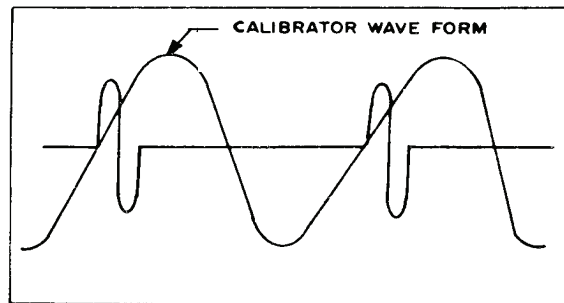

Figure 4. Single cycle phase relationship.
- (5) Adjust function generator frequency for 100 kHz.
- (6) Adjust oscilloscope horizontal **TIME/DIV** switch for a convenient viewing display.
- (7) Adjust TI **START/STOP PHASE** control until function generator output cycle begins at zero-degree phase on positive slope of calibrator waveform, as shown in figure 4.